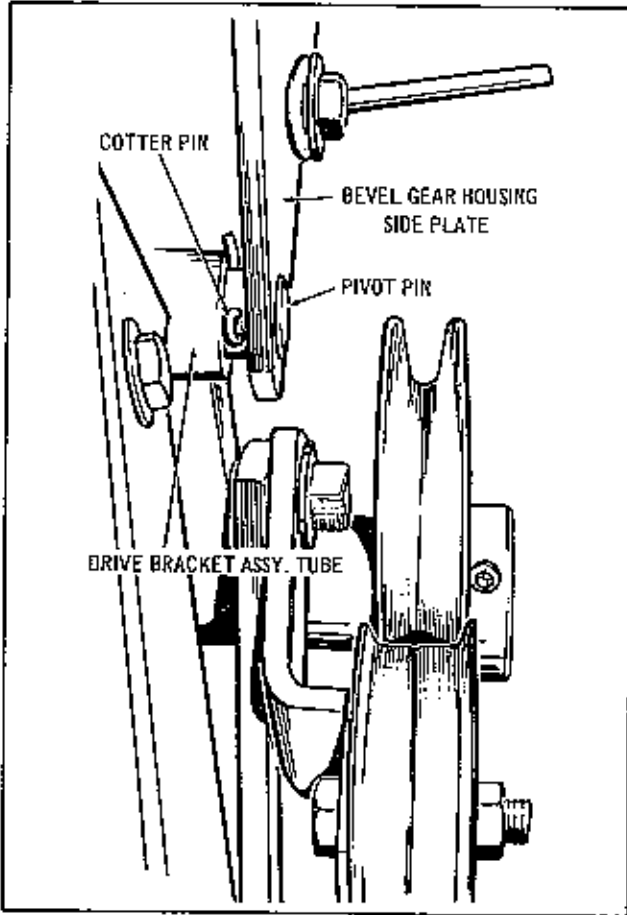

Figure 3
3. Push Pivot Pin through the holes in Bracket and Tube until the position of Cotter Pin Hole in Pivot Pin is as shown in Figure 3. Secure in position with Cotter Pin furnished.